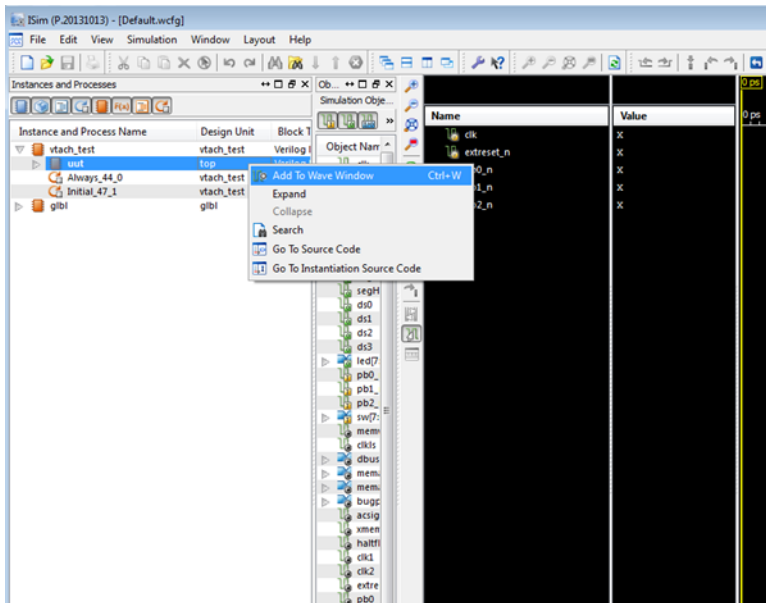

Figure 5-25 Add ut waves
2. In the Instances and Processes window on the left, right-click *uut* and select "Add to Wave Window" (see Figure 5-25).